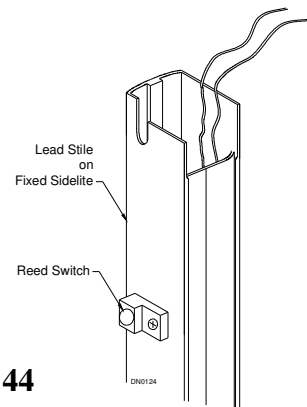

Figure 44
2. **Fixed Sidelite Units:** Magnet is installed inside top rail of door. Place a steel washer on interior side of rail to confirm it is installed. Magnetic reed switch is installed inline with magnet in leading stile of sidelite facing towards door (See Figure 44).